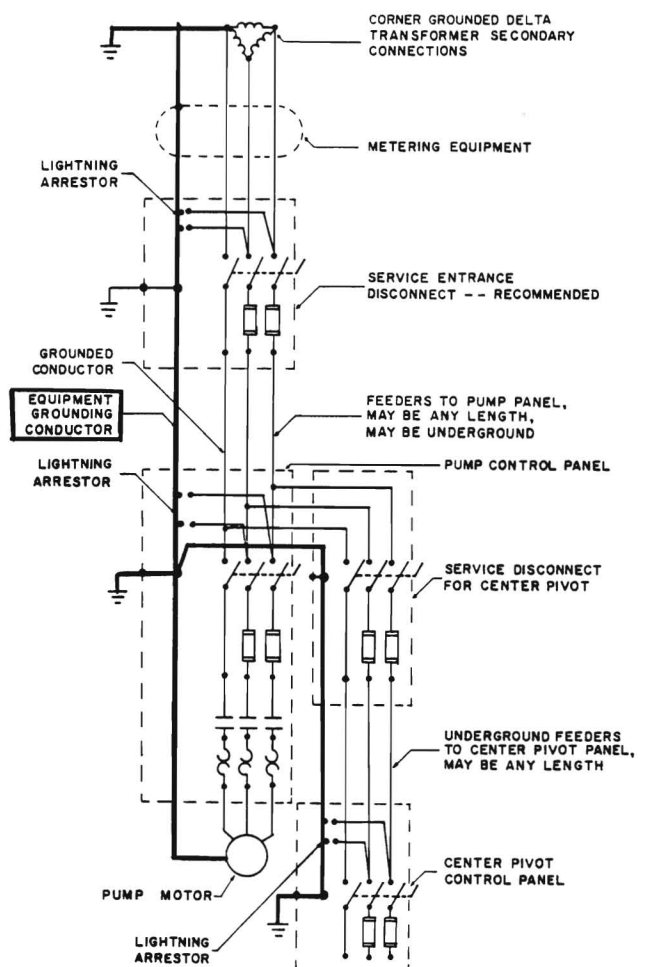

Figure 2. This is a properly grounded irrigation system. Note that all metal enclosures, equipment and grounds are connected by a grounding conductor.
- Ground rods should be driven as indicated in Figure 2. Steel or iron rods should be at least $\frac{3}{8}$ inch in diameter. Non-ferrous rods should be at least $\frac{1}{2}$ inch in diameter. All rods must be driven at least eight feet deep.
- Grounding conductors must be metallically bonded to the ground at the source of electrical supply. (See Figure 2.)